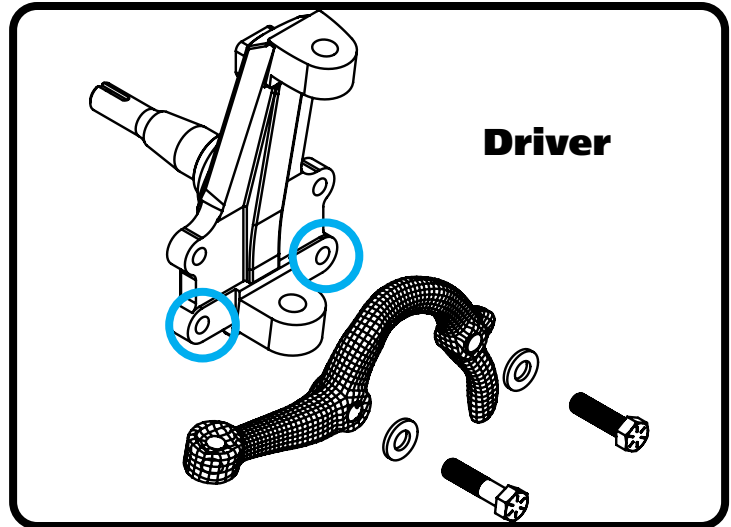

Figure 9
16. Use two 1/2"-20 x 2" bolts (w/red loctite) and 1/2" SAE flat washers to attach the steering arm to the lower two mounting holes on the spindle (Figure 9).